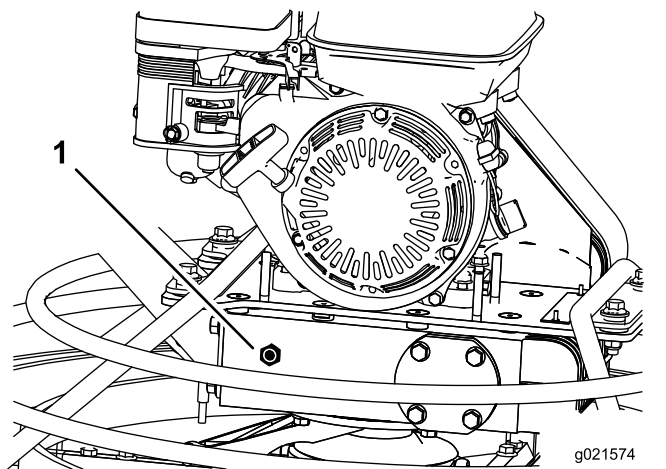

Figure 19
4. Remove the gearcase plug (Figure 19).